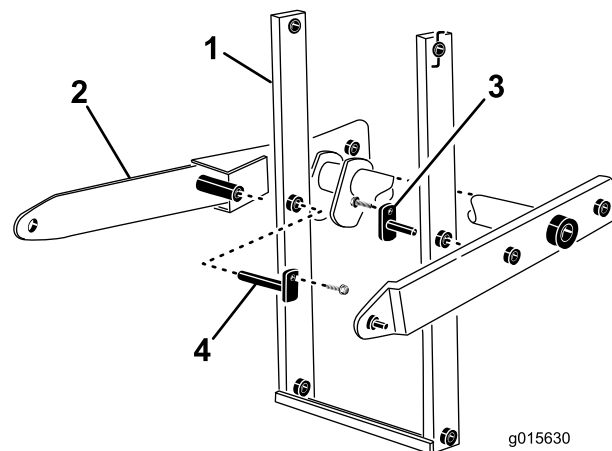

Figure 16
12. Install the short and the long welded mounting pins through the arm assembly and the main lift arm assembly (Figure 16). Secure with the 1/4 x 3/4 inch self tapping screws.